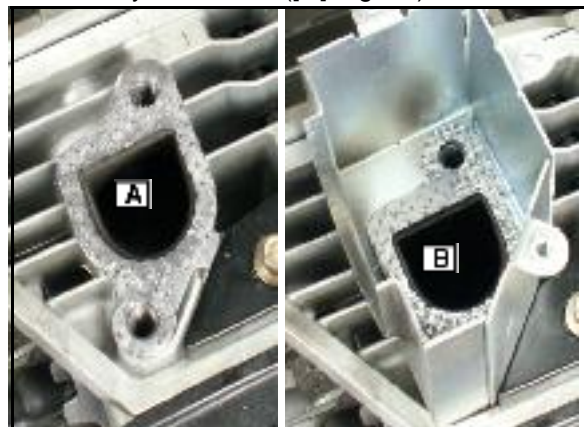

Fig. 25
1. Set new exhaust gasket on mating surface of cylinder head ([A] Fig. 25).
2. With second gasket set inside heat shield, place shield on top of cylinder head exhaust gasket ([B] Fig. 25).